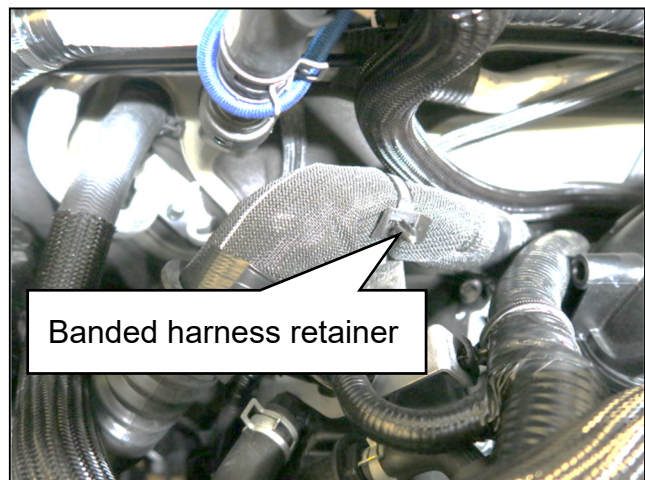

Figure 9
9. Using a suitable tool, remove and discard the banded harness retainer shown in Figure 9.